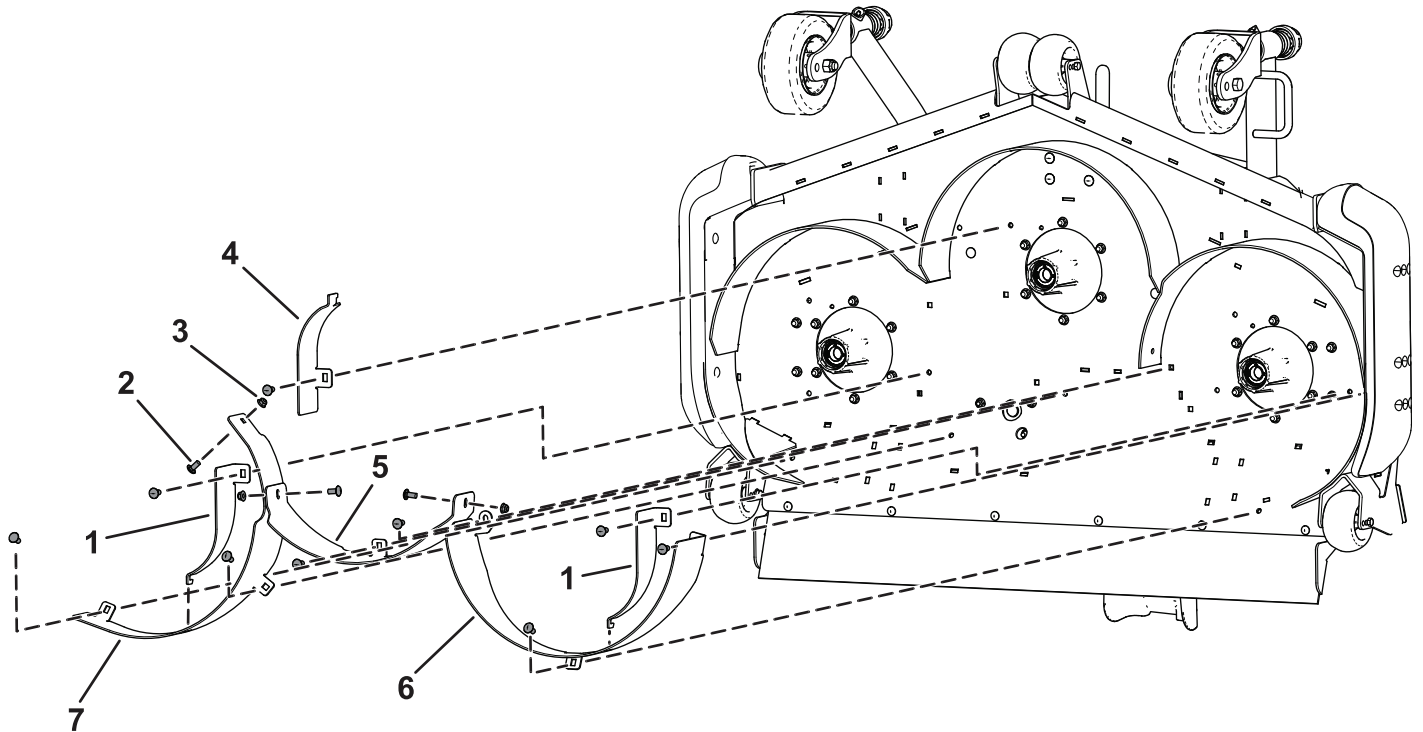

Figure 4
1. Loosely secure the rear, right baffle to the mower deck using 3 carriage bolts (3/8 x 7/8 inch) and 3 locknuts (3/8 inch) as shown in Figure 4.
2. Loosely secure the rear, left baffle to the mower deck using 3 carriage bolts (3/8 x 7/8 inch) and 3 locknuts (3/8 inch) as shown in Figure 4.
3. Loosely secure the rear, center baffle to the mower deck using a carriage bolt (3/8 x 7/8 inch) up through the deck, and 1 carriage bolt (3/8 x 7/8 inch) through the left, front baffle, and locknuts (3/8 inch) as shown in Figure 4.
4. Loosely secure the rear, center baffle to the rear, right baffle using 1 carriage bolt (3/8 x 7/8 inch), and 1 locknut (3/8 inch) as shown in Figure 4.
5. Loosely secure the 2 side kicker baffles and center kicker baffle using 3 carriage bolts (3/8 x 7/8 inch) and 3 locknuts (3/8 inch) as shown in Figure 4.